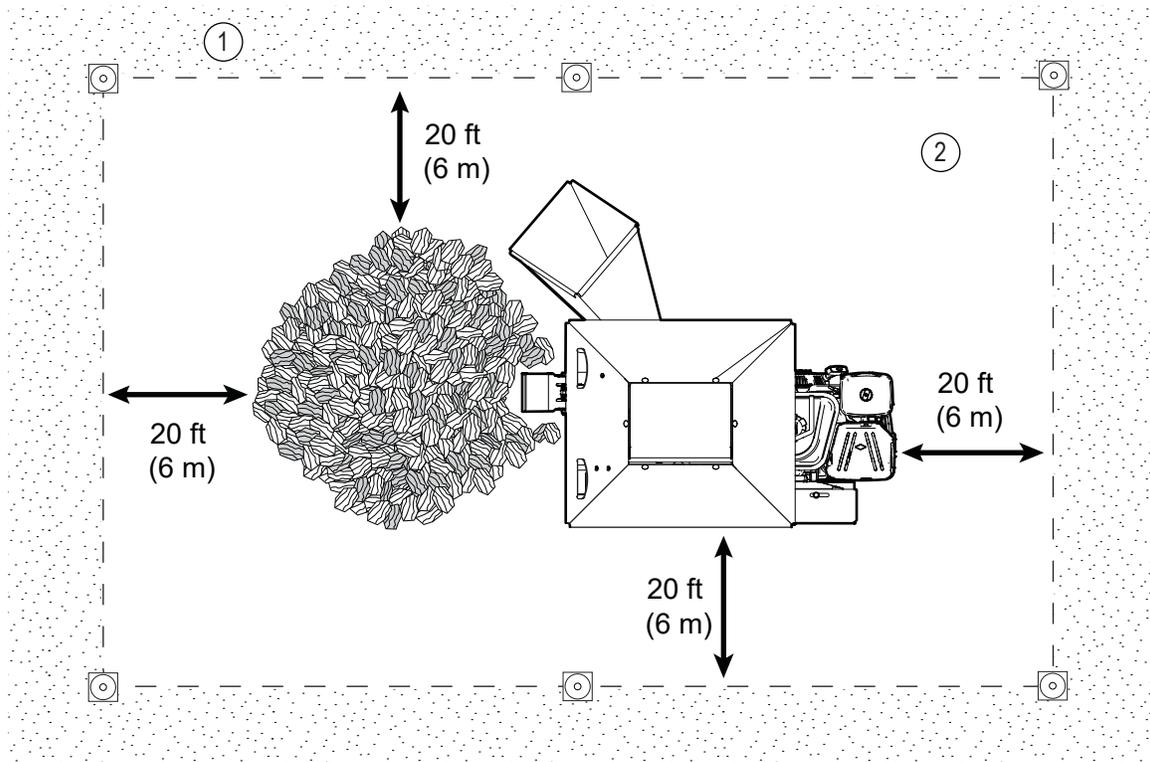

Figure 2–Safe work area example
- Use safety cones to identify the work zone perimeter. The work zone perimeter should be a minimum of 20 ft (6 m) away from any hazard in the work zone. The area outside the work zone perimeter is the safe zone. For more information, see *Figure 2 on page 12*.